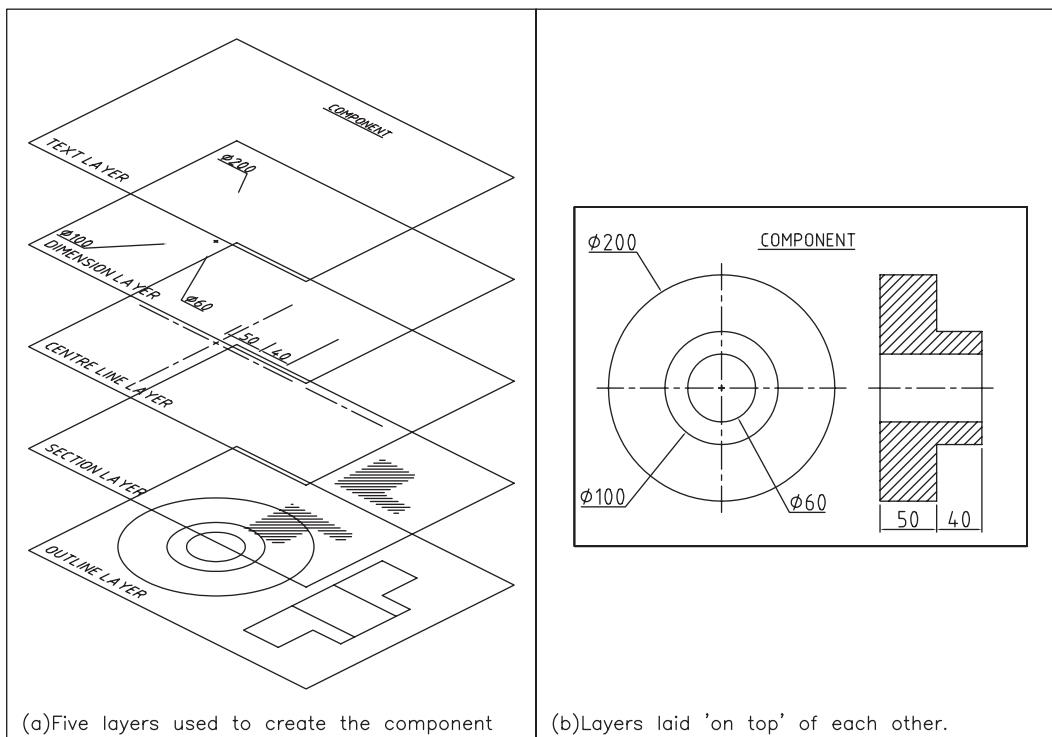

Figure 10.1 Layer concepts.
- 6 Figure 10.1 demonstrates the layer concept with: